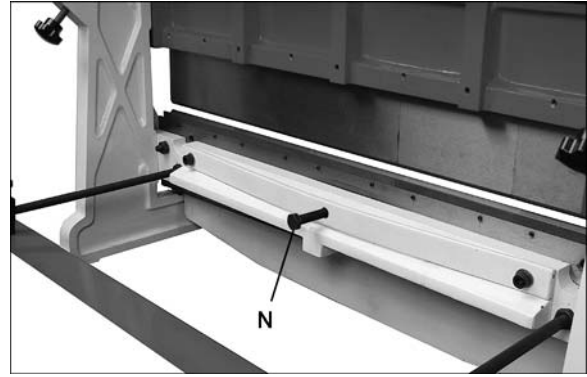

Figure 10
4. If the shear cuts the paper on the ends, but not the center, slightly turn screw (N, Figure 10) *clockwise* until paper is cut the entire length.
5. If the shear cuts the paper in the center, but not the ends, turn screw (N) *counterclockwise* until paper is cut the entire length.